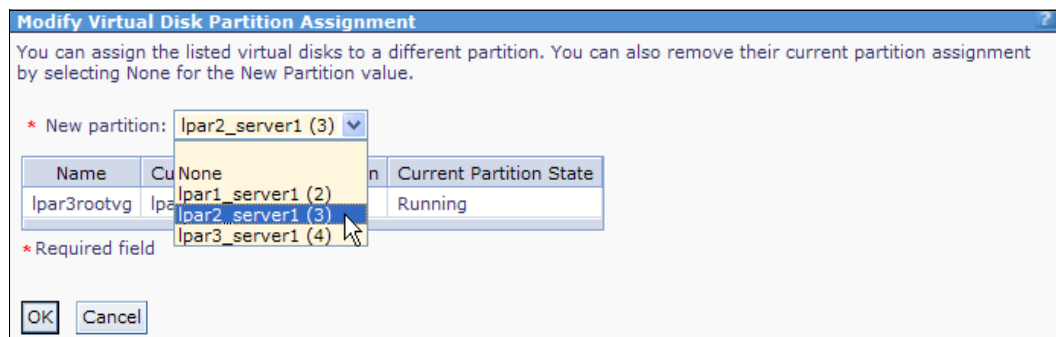

Figure 4-16 Destination partition selection
- Select the destination partition for the selected virtual disk by using the drop-down list of the **New partition** field, as shown in Figure 4-16. If you want to unassign the virtual disk from an LPAR, select **None**. Click **OK** to assign the virtual disk to the destination partition.